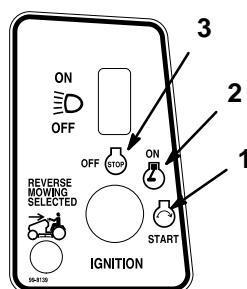

Figure 9
6. Turn the ignition key clockwise and hold it in the “START” position (Fig. 9). When the engine starts, release the key.
2. Turn the ignition key to “OFF” (Fig. 9).